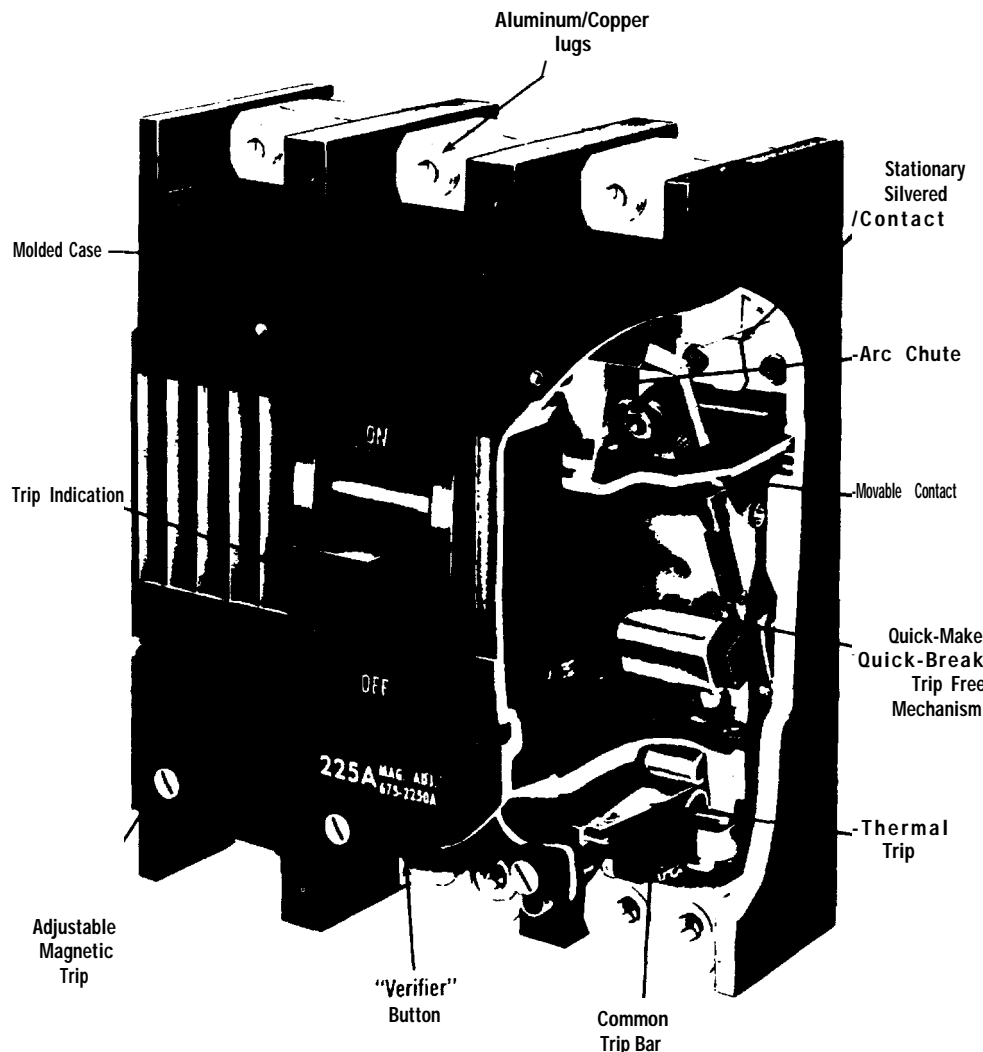

*Figure 5-9. Typical motor control center.*
(1) Reversing starter. A motor that can be operated in either a clockwise or counterclockwise direction.
(2) Motor control center is the term given to a grouping of motor starters within a large enclosure (fig 5-9). The centers are used where several motors are to be operated from a single location. The starters themselves may be magnetic across-the-line starters or other types. A typical use would be in a boiler control room where the various fan, pump, conveyer, and other motors serving the boiler are all controlled from a central location.